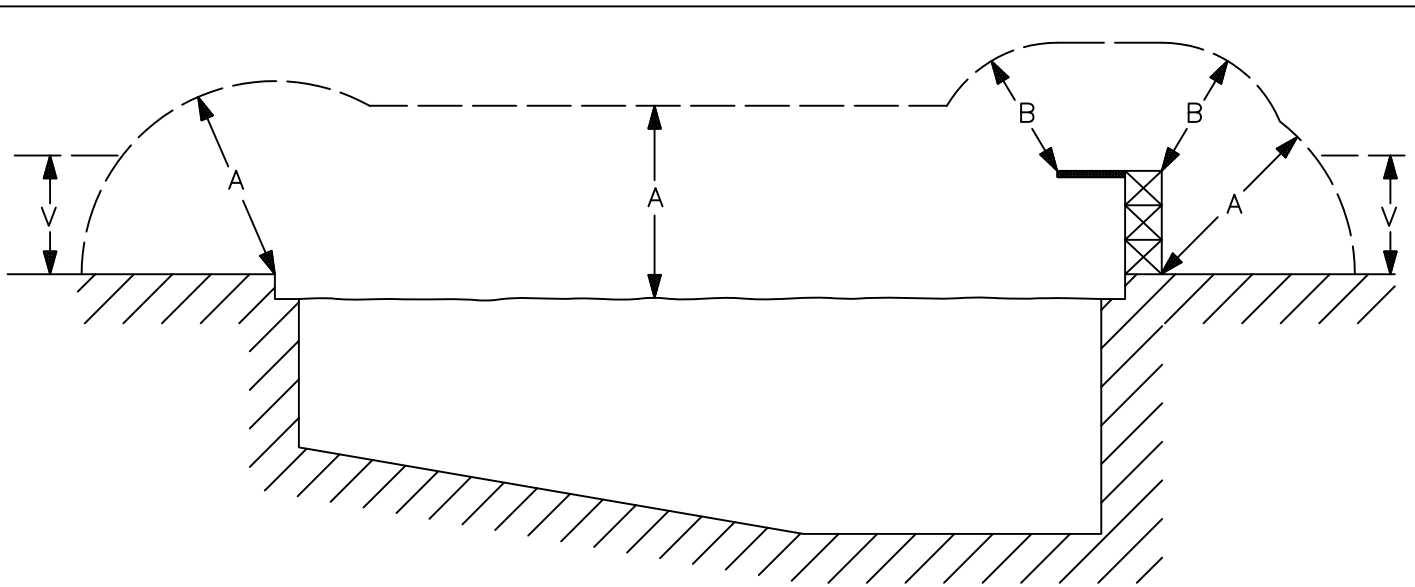

FIG. 1
2. SERVICE CONNECTIONS LOCATED ABOVE GARAGE OR OTHER BUILDING EXTENSION AS REPRESENTED IN FIGURE 1 ARE NOT ACCEPTABLE BECAUSE THE SERVICE CONNECTION CAN NOT BE DIRECTLY REACHED FROM A LADDER PLACED ON THE GROUND.
PSEG LONG ISLAND BASES ITS REQUIRED CLEARANCES FROM SWIMMING POOLS AND ASSOCIATED STRUCTURES UPON THE REQUIREMENTS OF THE NATIONAL ELECTRICAL SAFETY CODE (NESC). WHERE WIRES CONDUCTORS OR CABLES CROSS OVER A SWIMMING POOL OR THE SURROUNDING AREA THE CLEARANCES IN ALL DIRECTIONS SHALL NOT BE LESS THAN THOSE SHOWN IN TABLE 1 AND ILLUSTRATED IN FIG. 1, AND AS DESCRIBED IN THE NESC. LOCAL MUNICIPALITY MAY HAVE STRICTER POOL CLEARANCE REQUIREMENTS. FOR ADDITIONAL PUBLIC POOL REQUIREMENTS SEE SECT. 3.4